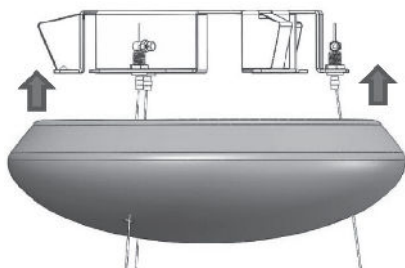

FIG.10
- › Lift up the ceramic cover until you reach the ceiling (Fig.10), make sure that the springs have hooked the ceramic cover.